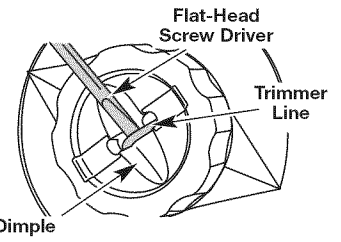

Fig. 15
2. Using a flat-head screwdriver, insert the tip into the line dimple and just under the exposed portion of the line (Fig. 15)